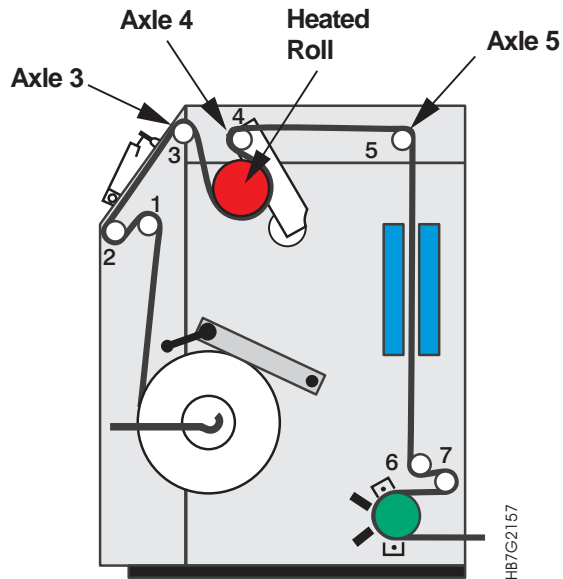

Figure 236. Paper Supply Paper Path
- 8 Push the paper over axle 3, as shown in Figure 236 on page 318, forming a loose loop below the heat roller